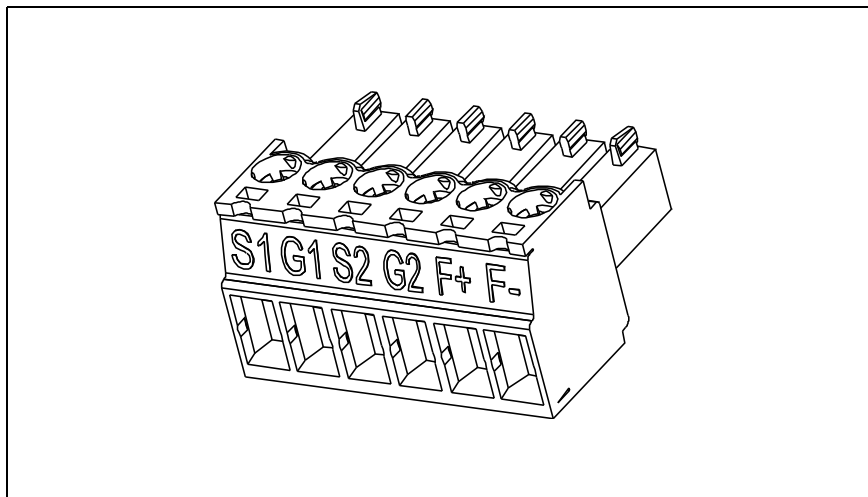

Figure 7. STO connector.
- STO terminal connector (six pins black connector, see Figure 7)